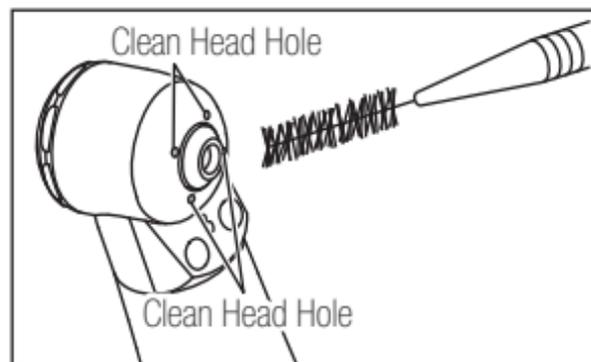

Fig. 2
- 1) Scrub dirt and debris from the handpiece, and wipe clean with alcohol-immersed cotton swab or cloth. (Fig. 2) Do not use a wire brush.